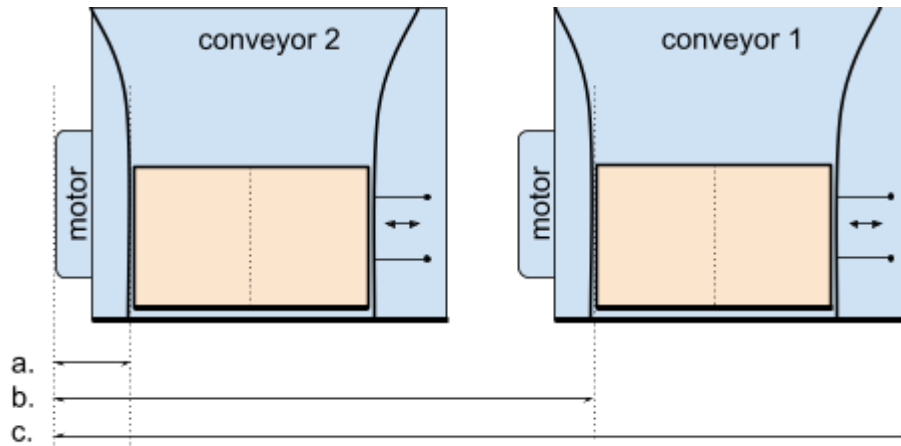

Figure 78: Measure the conveyor dimensions as if they were one big conveyor.
- Fixed guide width for conveyor 2, measured as in **figure 78**.
- Fixed guide width for conveyor 1, measured as b in **figure 78**.
- Measure *conveyor total width* from the left side of the left conveyor to the right side of the right conveyor. See total width for both conveyor 1 and 2, measured as c in **figure 78**.